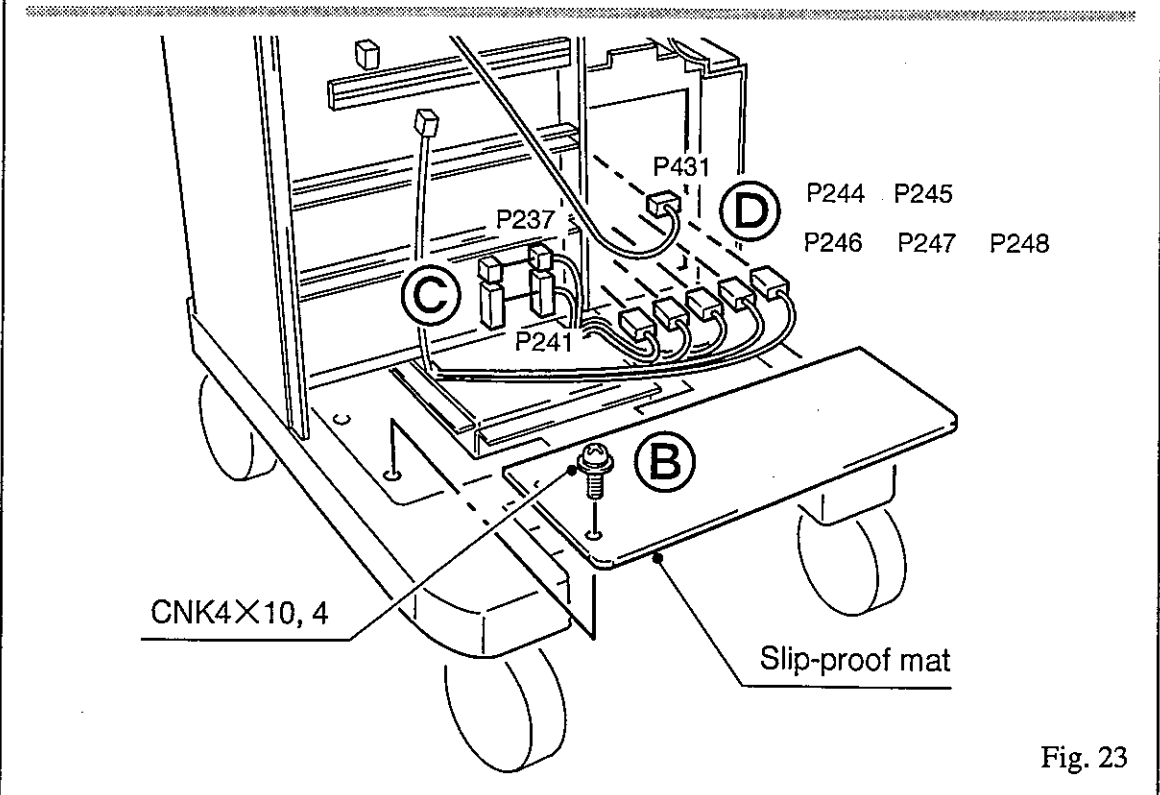

Fig. 23
- (6) Unfasten 4 screws and remove slip-proof mat by pushing it up in the lower part. (B in fig. 23)
- (7) Unplug all power cables plugged in motherboard.
(C in fig. 23)
(D in fig. 23)